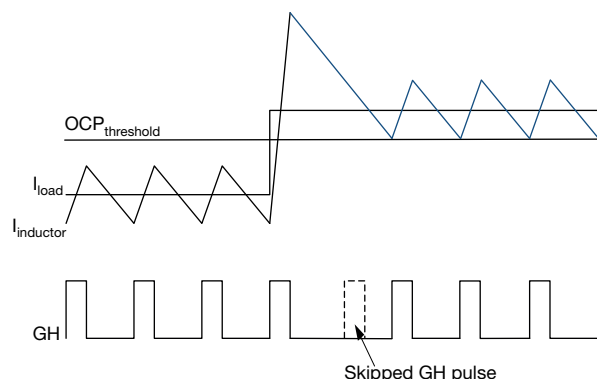

Fig. 7 - Over-Current Protection Illustration
SiC45x has pulse-by-pulse overcurrent (OC) limit control. The inductor valley current is monitored during low-side (LS) FET turn-on period through RDS(on) sensing. After a pre-defined blanking time, the valley current is compared with an internal OCP threshold named IOUT\_OC\_FAULT\_LIMIT, which can be programmed via PMBus. Once monitored valley current is larger than IOUT\_OC\_FAULT\_LIMIT, a pulse-by-pulse over-current limit is broken, high-side (HS) turn-on pulse is skipped and LS FET is kept on until the inductor valley current returns below OCP limit as illustrated by Fig. 7.